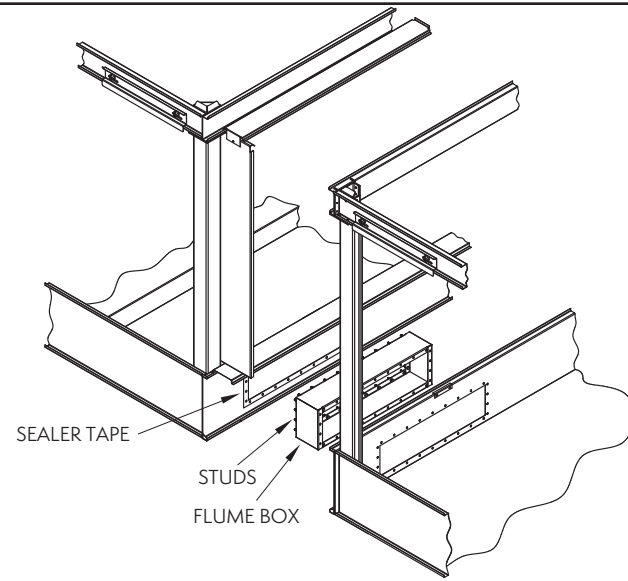

Figure 8 – Equalizer Flume Assembly, 17', 20' & 24' Wide Models
2. Mating flanges which will make contact with others should be cleaned to remove dirt, grease and moisture. Apply a layer of sealer tape on one side panel centered over the flume box holes as shown in **Figure 8**. Remove paper backing strip from the sealer tape.
6. Align the bolt holes in the equalizer flume and equalizer opening with drift pins while drawing the second basin section against the first as shown in **Figure 8**.
9. Place the drip channel over the adjoining pan section flanges. Secure by installing 5/16" self-tapping screws through the retaining clips into the side panel. For stainless steel construction, secure by installing 1/4" stainless steel bolts through the retaining clips into brass rivnuts secured in the side panel. (See **Figures 8 & 9**.)